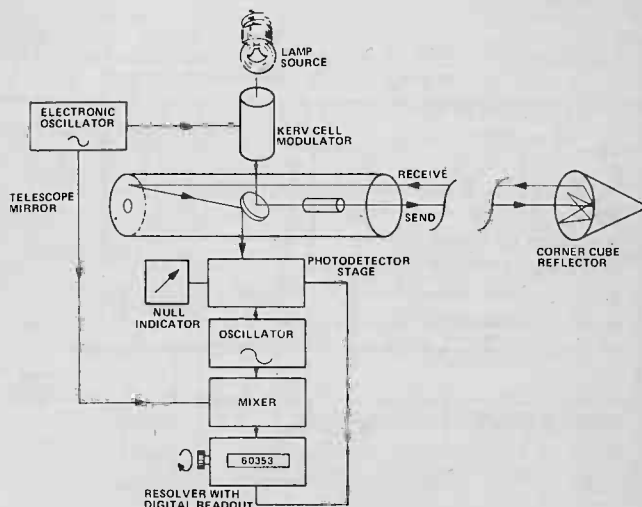

Figure 3. Much simplified schematic of Geodimeter model 6A distance meter. In this design electro-optical methods are used.
**Electro-optical modulation:** In these an optical carrier beam is modulated by altering the intensity of the carrier or its angle of optical polarization. The modulated beam is transmitted from a high-quality optical telescope to the far station where it is reflected back to the sender by one or more corner-cube reflectors. Fig. 3 shows the schematic of a Geodimeter model 6A.